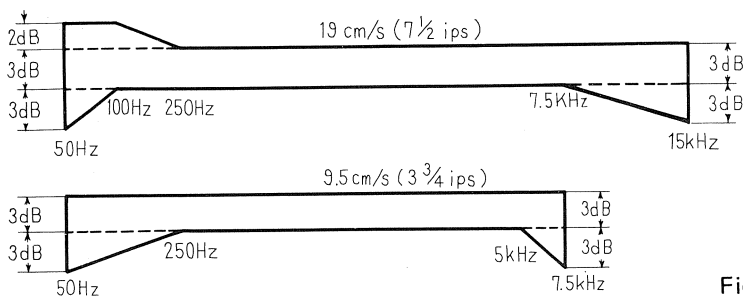

Fig. 31
5. Take meter readings on VTVMs. They should be within the specified response range shown in Fig. 31.
7. If only the high end of the frequency shows insufficient response, this can usually be corrected by slightly reducing the abis current (see item 9-2, above).